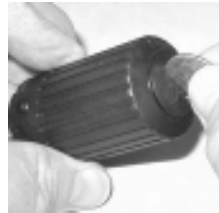

Fig. 128 - TMT BATTERY HATCH REMOVAL
- Apply a coin to the recessed slot of the Hatch and turn it counter clockwise out of the Housing (Fig. 128).